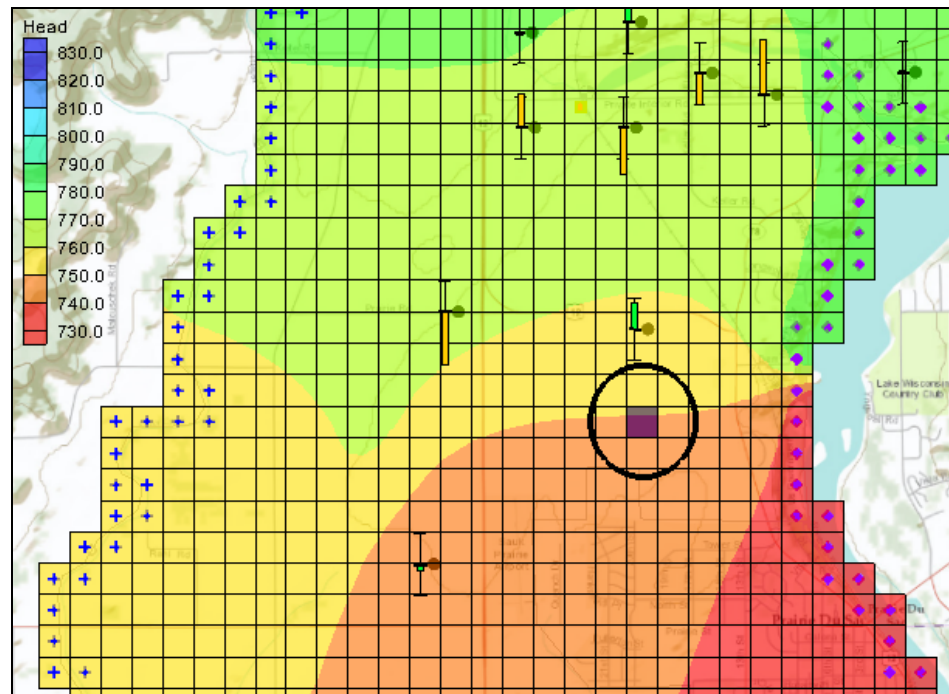

Figure 5 Location of new well in Cell ID 2356
4. Using the **Select Cells** tool, select Cell ID 2356 (Figure 5).